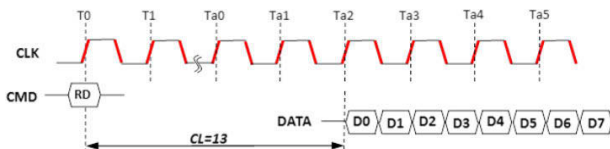

Figure 1-3: An issued read command (RD) to the DRAM with a CL13.
- ✓ **CAS latency:** The DRAM response time from column address command to 1st data out on the memory bus. CAS latency is counted in clock cycles, so for example, a CL13 (pronounced “CAS latency of 13”) means the response of the DRAM is 13 clock cycles. In Figure 1-3, you see how this works out by issuing a read command (RD) to the DRAM with a CL13.